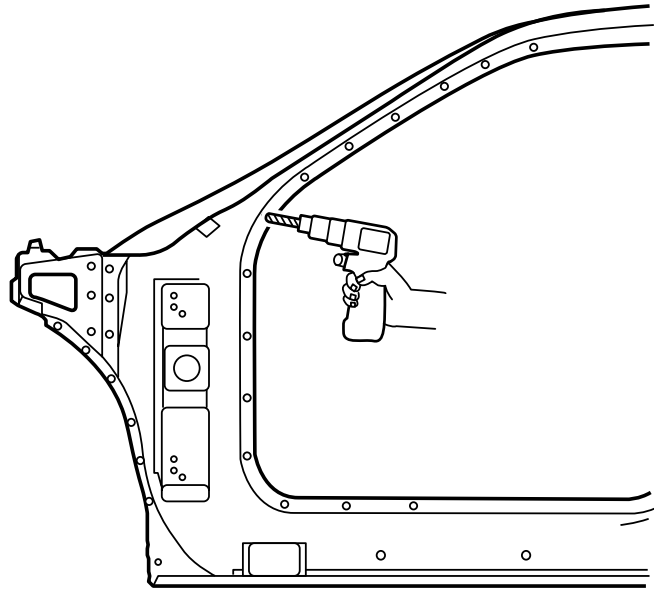

Fig. 1-2 — Drill Out Welds
5. Locate factory welds and drill out, noting number and locations of welds (Fig. 1-2).